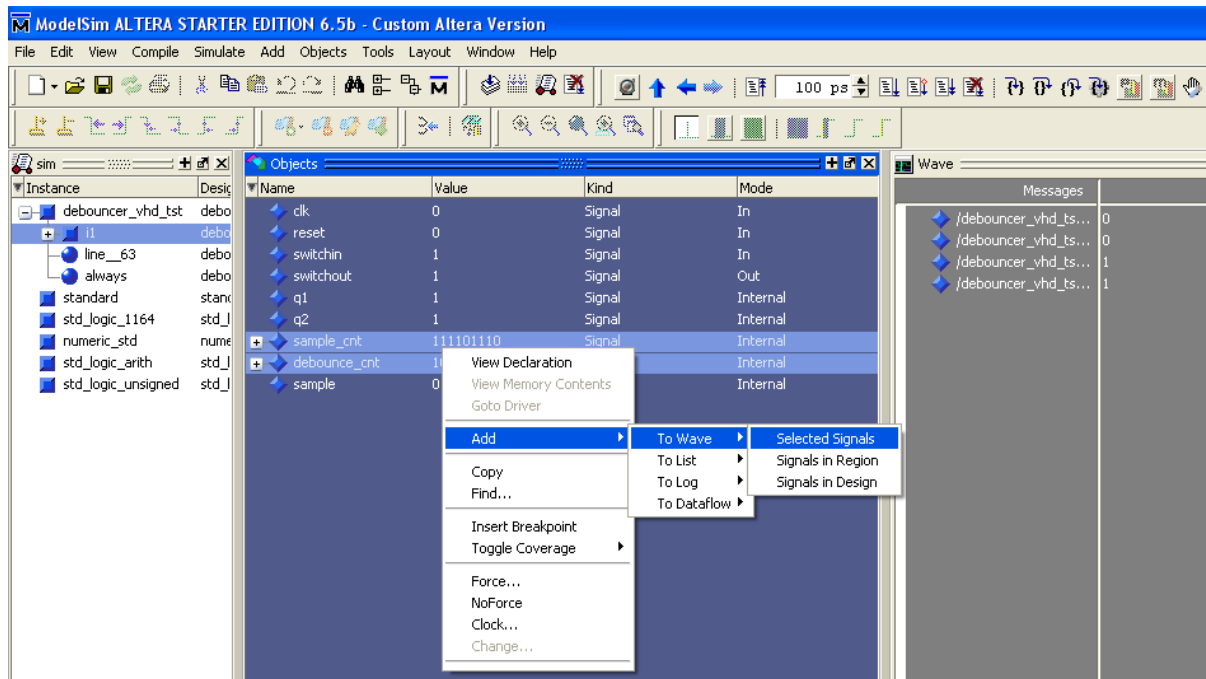

Figure 16
- Select other signals to watch, e.g *sample_cnt* and *debounce_cnt*, and add them to the wave; see Figure 16.